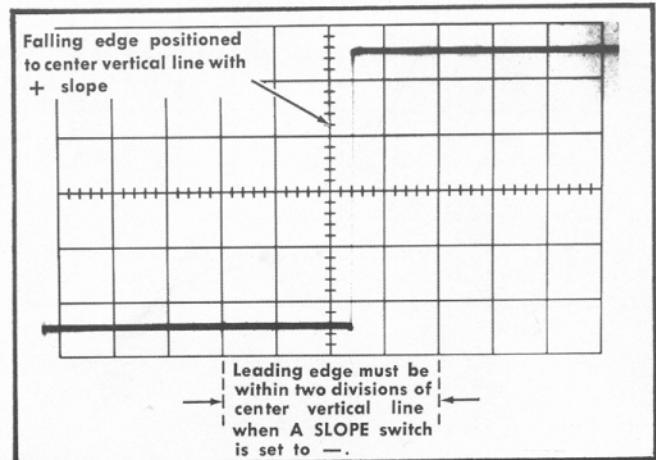

Fig. 6-64. Typical CRT display when checking calibrator duty cycle.
g. CHECK—50% point on rising edge now displayed not displaced more than two divisions from the center vertical line (duty cycle 49% to 51%; see Fig. 6-64).